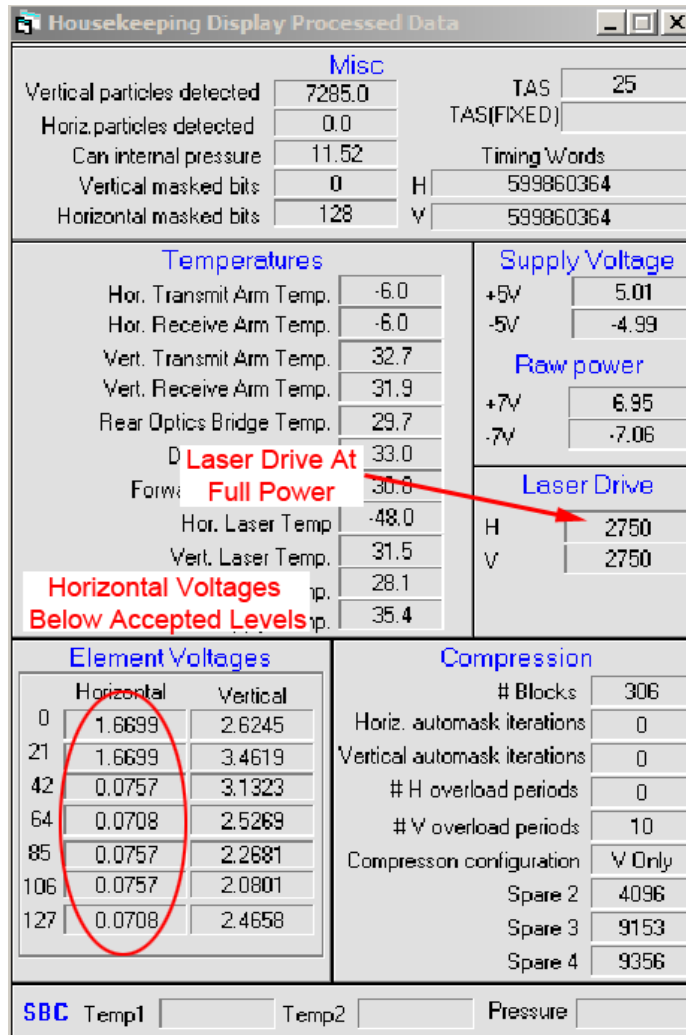

Figure 6.3.1. 2D-S Housekeeping shows low element voltages with laser drive at full power.
During normal airborne operation, the optical windows of the 3V-CPI will become contaminated due to cloud drops and streaming water. Contamination on the windows of the imaging system can result in a decreased image mean and a severely contaminated background over time. Contamination of the stereo particle windows will cause false firing of the imaging system and false readings for the stereo channels. If the elemental voltages for a channel are below the factory settings they should be cleaned. (Figure 6.3.1).
1. **Figure 6.3.1** shows the Housekeeping Menu in the 2D-S GUI. If the menu is showing element array voltages that are below approved factory settings then the windows need to be cleaned.